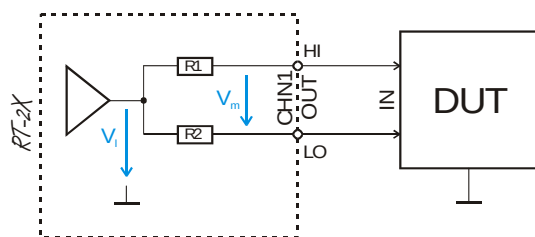
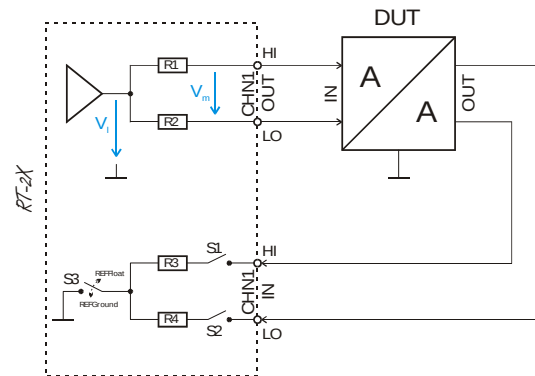

Fig 37 1-port Device Setup ($R1 = R2 = 368 \Omega^*$)
Fig 38 2-port Device Setup ($R3 = R4 = 368 \Omega^*$)
1. Connect **RT-2X** to the DUT as shown in **Fig 37** (1-port DUT) or **Fig 38** (2-port DUT).